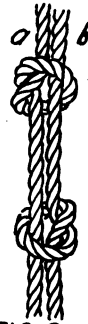

FIG. 80
**Fisherman's Knot.** The fisherman's knot derives its name from the fact that it is commonly used for joining silkworm gut on fishing tackles. In making it the strands are laid together, and an overhand knot (fig. 80) is made with one end *a* around the other strand *b*. The strands are then turned end for end and another overhand knot made with the other end *b* around the first strand *a*. See overhand knot (fig. 6).